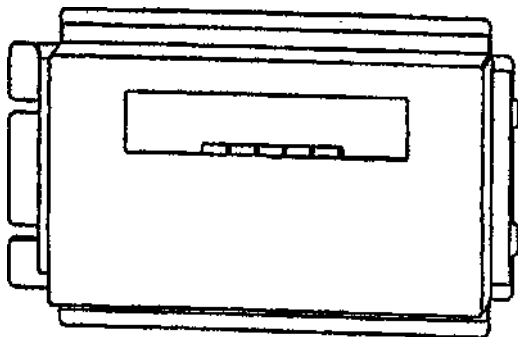

Figure 7 New Floppy Drive Cover Plate
14. (Figure 7): If Tag 8 is not already Installed, remove the two plates that cover the old Floppy Disk Drive area, replacing these with the new single Cover Plate.